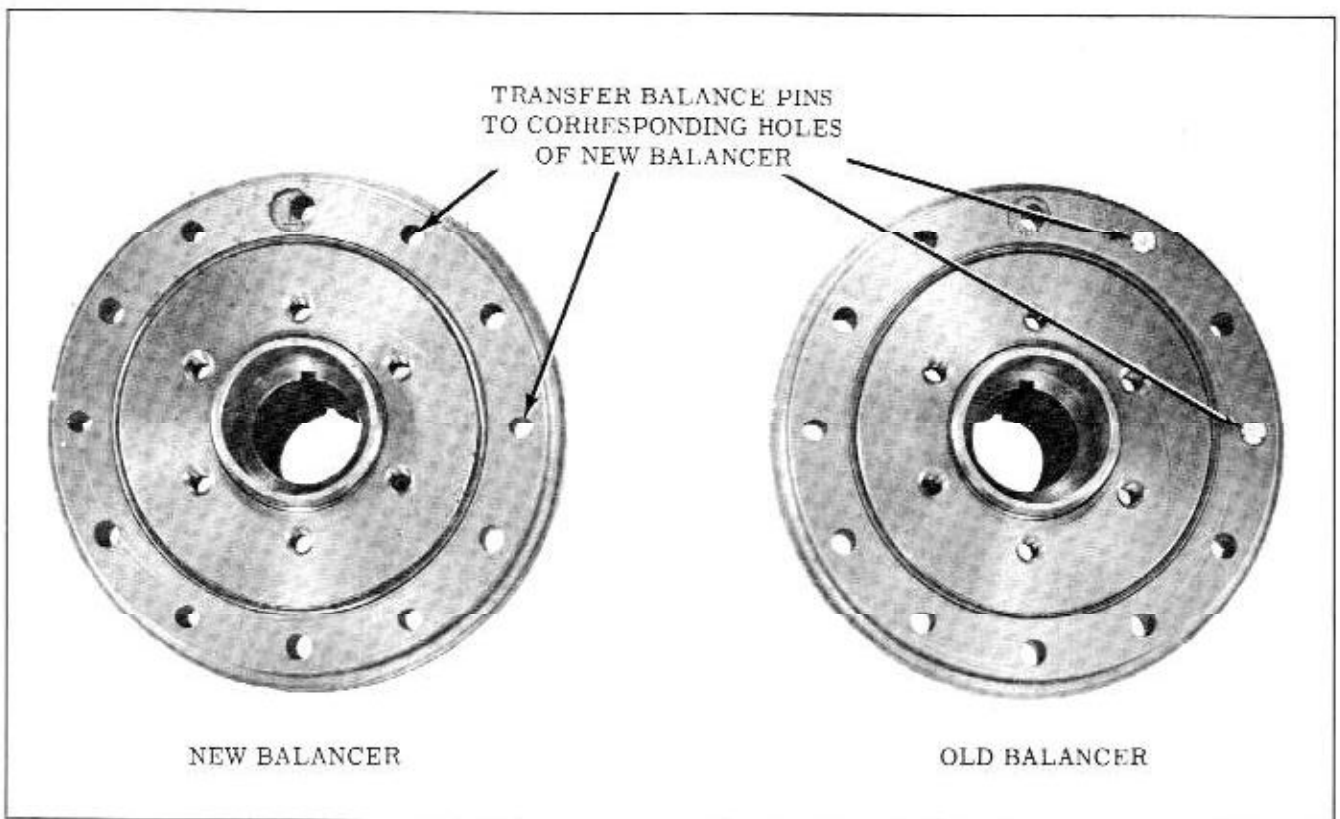

Fig. 8-33 Crankshaft Balancer Pins
- a. Lay new and old balancer with keyway in relative position. (Fig. 8-33)